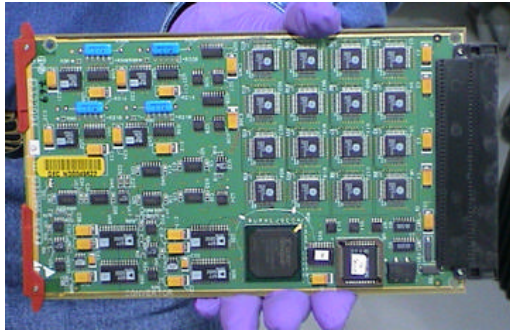
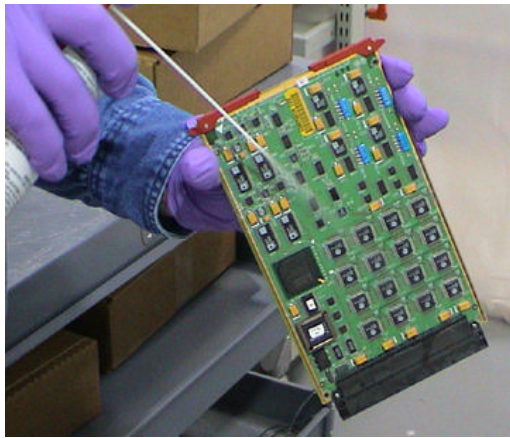

Figure 3 - Proper method for handling converter cards
Figure 4 - Spraying "off" the connectors
13. Remove the Converter cards (see Figure 3) one at a time from their static bags and spray the connector (see Figure 4) with it facing down (see so any spray will drip off the card and not across the converter card. Spray the outside of the connector shroud on all sides and also spray inside the pin housing. (Give it a good soaking). Allow the card to air dry. Do not use the the compressed air to dry it.